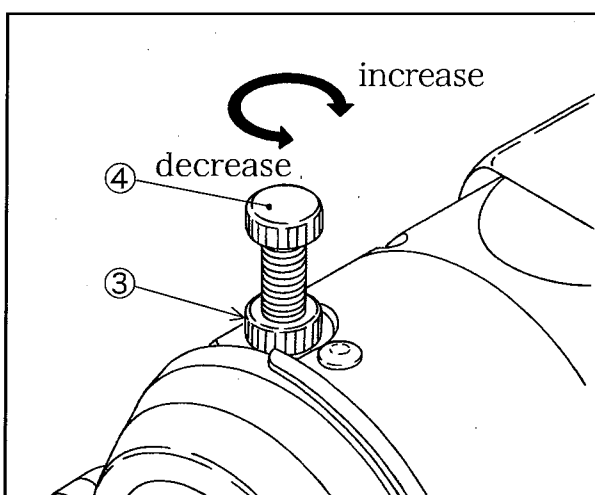

Fig.22
To adjust the presser foot pressure, loosen the nut ③ and turn the adjusting screw ④ in Fig.22.
- To increase the pressure, turn the nut ③ clockwise.
- To decrease the pressure, turn the nut ③ counterclockwise.